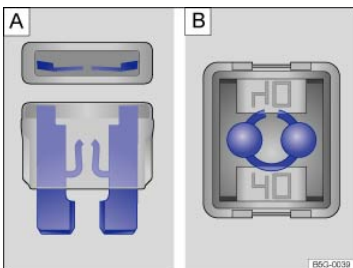

Fig. 208 Blown fuse: : Blade fuse. : JCASE® fuse.
- *For blade fuses (ATO®, MINI®):* Remove the fuse and shine a flashlight on it. This makes it easier to tell if the fuse has blown. A blown blade fuse has metal strips that have burned through, which you can see through the transparent housing from above and from the side ⇒ Fig. 208 A.
- *For cartridge fuses (JCASE®):* Shine a flashlight on the fuse. This makes it easier to tell if the fuse has blown. A blown cartridge fuse has metal strips that have burned through, which you can see through the transparent housing from above ⇒ Fig. 208 B.